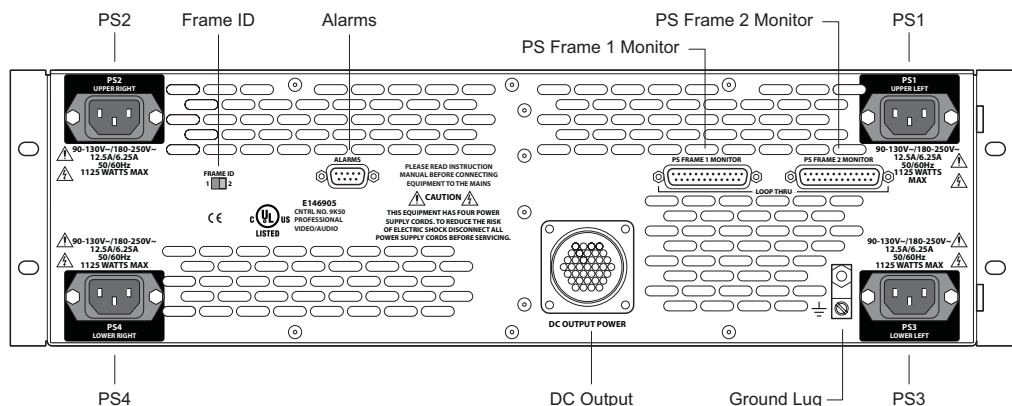

Figure 2-33. NV8000 Power Supply (Rear View)
- 2 Facing the rear of the **NV8000** frame, connect one end of a power cable (WC0096) to 'DC Output', as shown in Figure 2-33.